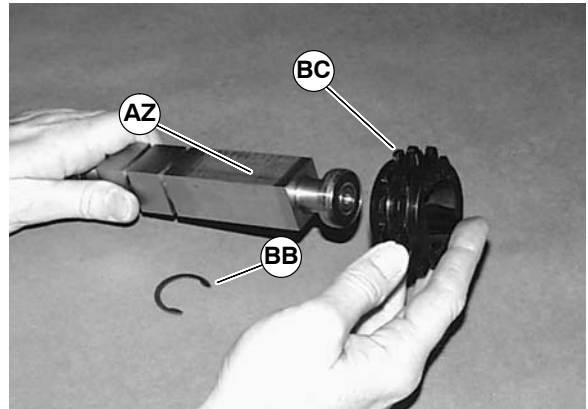

Figure 35
3. Remove snap rings (BB of Figure 35). Slide drive sprocket (BC) off the end of pulley (AZ).